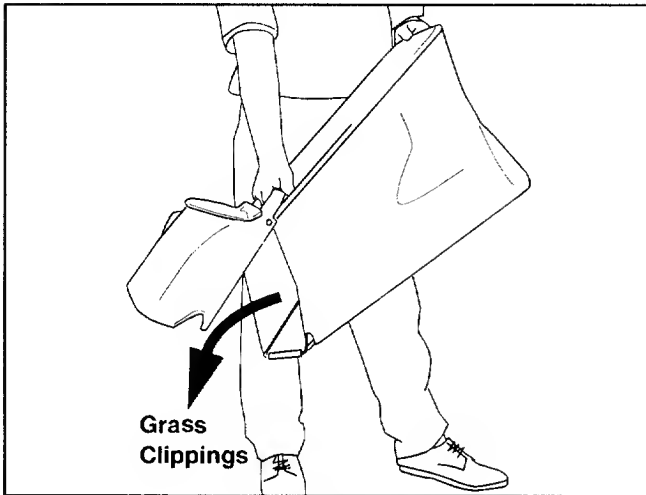

Figure 9
- Continue to hold the lower handle and raise the rear of the grass bag up toward your chest. The grass bag will open and the grass clippings will disperse. See Figure 9.